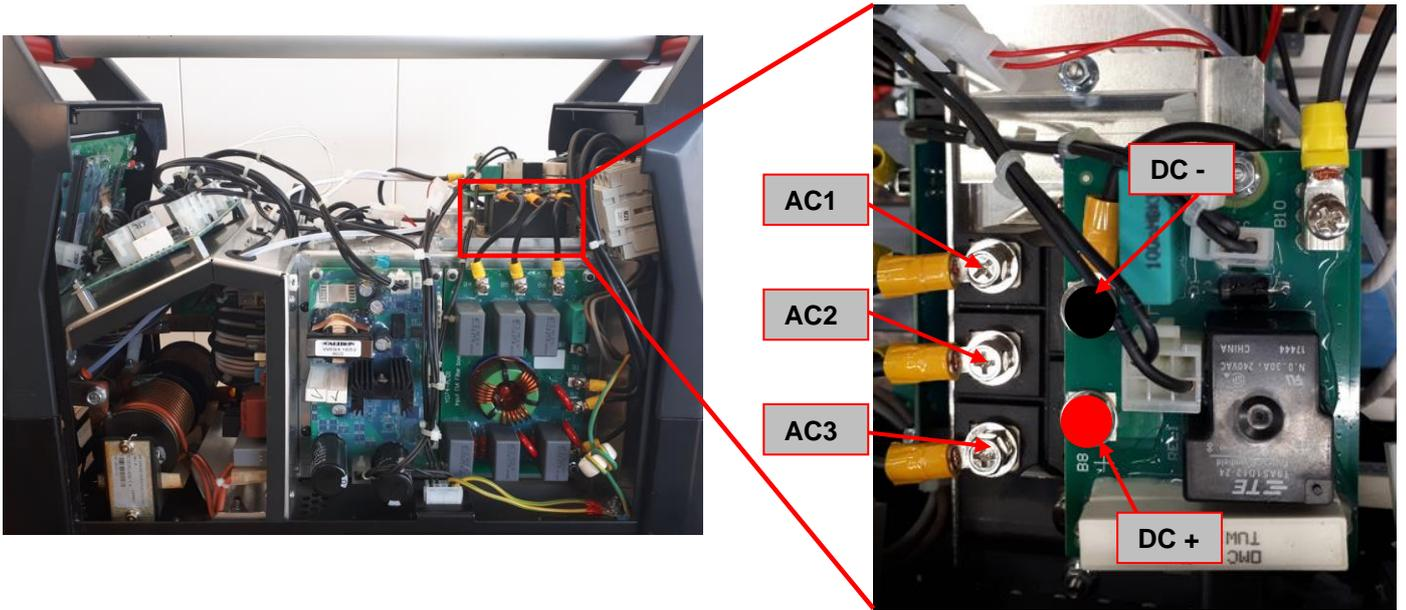

Figure 10 – Input Rectifier Bridge location and Test Points
8. Using the multimeter in VAC and VDC mode perform the tests as indicated in **Test Table 5**. See **Figure 10** for correct test point locations.